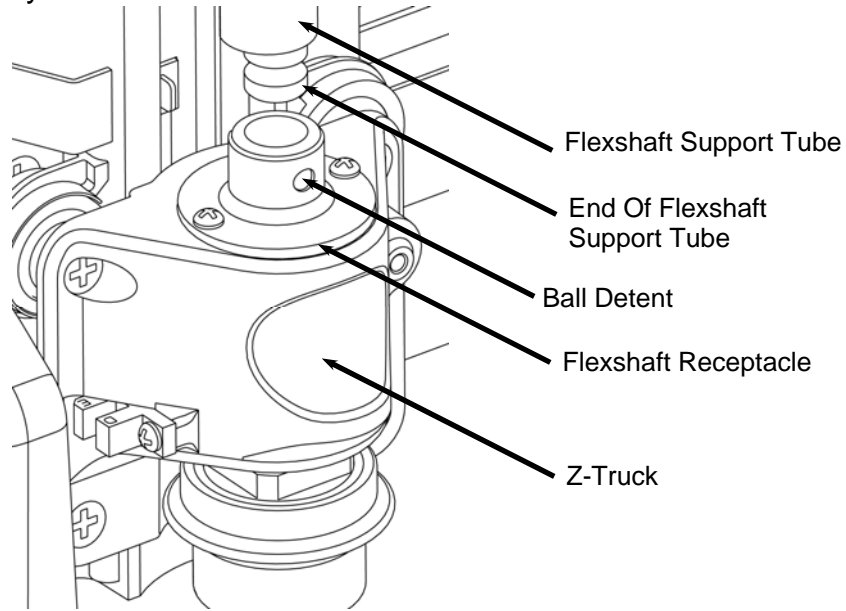

FIGURE 2: VIEW OF THE FLEXSHAFT CONNECTION TO THE Z-TRUCK
2. **Detach the flexshaft from the top of the Z-truck:** The flexshaft assembly is retained by a ball detent located in the flexshaft receptacle (See Figure 2). Firmly grasp the flexshaft support tube while reaching under the clear front cover with your other hand to grab the Z-truck. Pull up firmly on the flexshaft support tube and twist slightly while bracing the Z-truck. **DO NOT PULL ON THE SHEATH.** The flexshaft will pop out of the detent. Wrap the end of the flexshaft in tape so that the core will not fall out and lay the detached flexshaft end to the side.